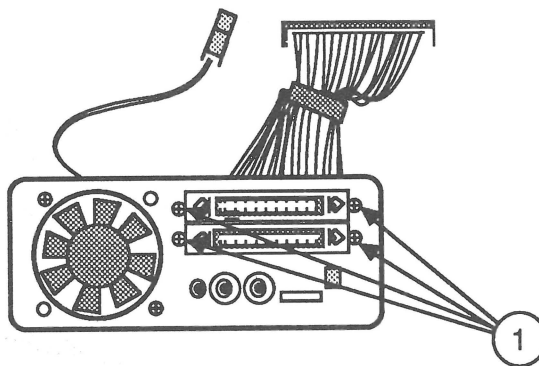

FIGURE 11
3. Remove the four screws (Figure 11, #1) that secure the SCSI cable to the frame and lift the cable free.
2. Replace the four screws (Figure 11, #1) that secure the SCSI-device-to-case cable to the metal frame.